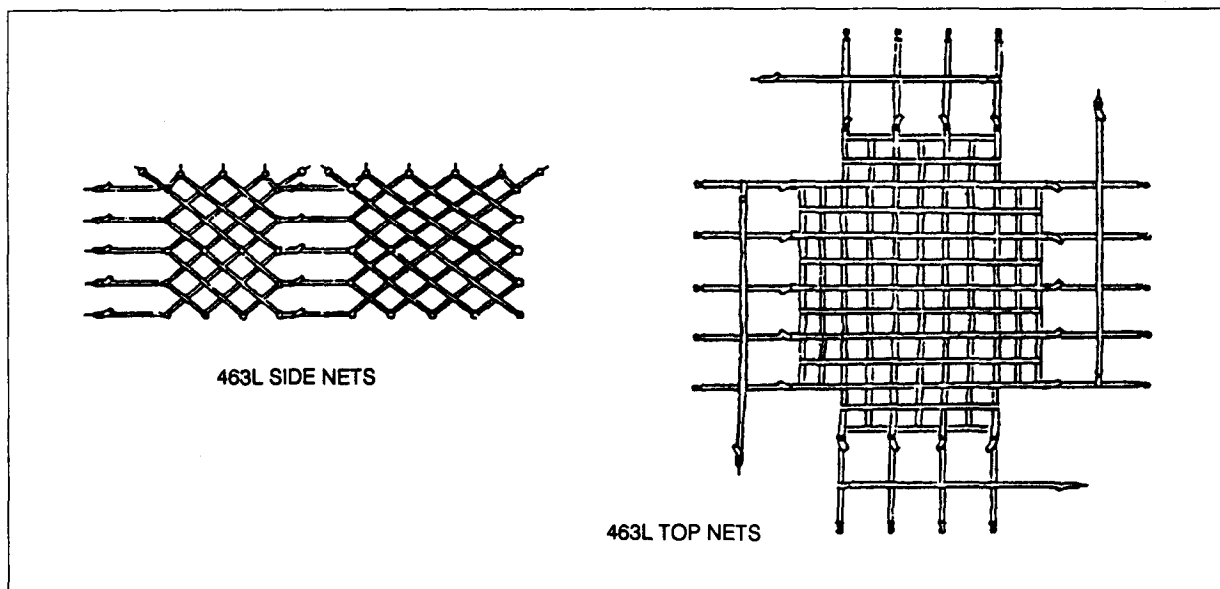

FIGURE 4-3. Pallet Nets.
b. **Pallet Nets.** There are three nets to a set: two side nets and one top net (Figure 4-3). The side nets are green in color and the top net is yellow. The side nets attach to the rings of the 463L pallet and the top net attaches by hooks to the side nets. These nets have a multitude of adjustment points and may be tightened to conform snugly to most any load. A complete set of 463L nets will provide adequate restraint for 10,000 pounds of cargo when properly attached to a 463L pallet. A complete set of 463L nets (three) weighs 65 pounds.